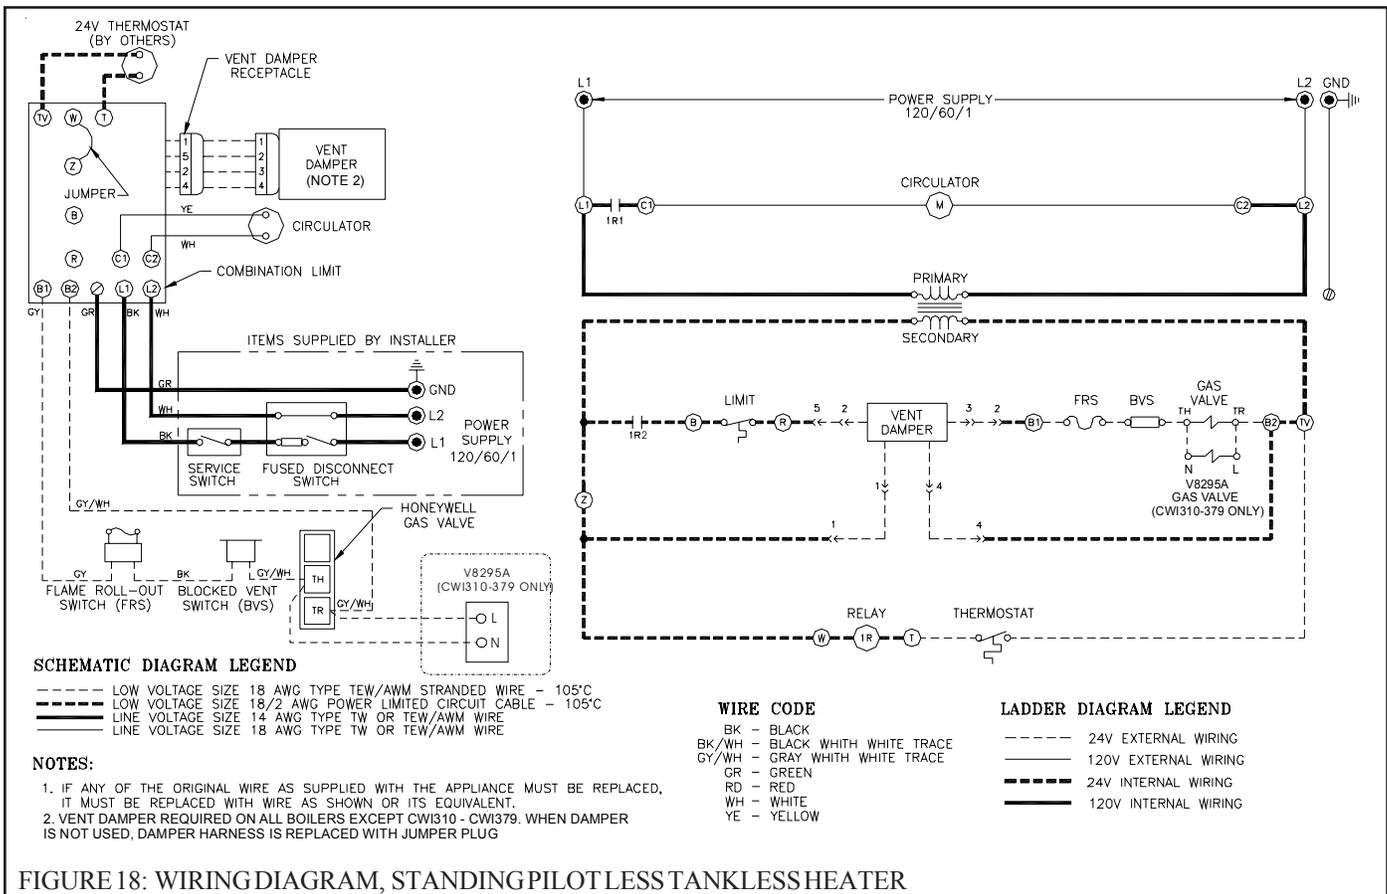

FIGURE 18: WIRING DIAGRAM, STANDING PILOT LESS TANKLESS HEATER
7) Backflow Preventer (Required in Massachusetts) - If required by local codes, install a backflow preventer in the cold water connection to the tankless coil just upstream of the piping shown in Figure 18. Install in accordance with local codes and the backflow preventer's installation instructions. Also install a potable water expansion tank on the outlet side of the backflow preventer (between the backflow preventer and the piping shown in Figure 18).
(FACTORY BOILER WIRING NOT SHOWN - SEE FIGURES 18 - 21)
(FACTORY WIRING NOT SHOWN - SEE FIGURES 18 - 21)
(Refer to Figures 18 - 21 for ladder and connection diagrams)